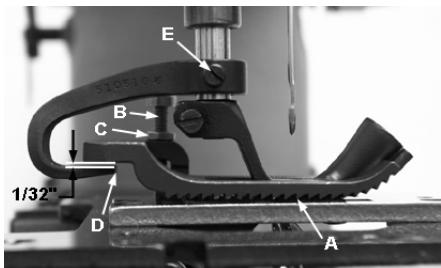

Fig 10A
Set the up upper feed dog so at it lowest position the teeth will just contact the lower feed dog teeth (A, Fig 10A). To make this adjustment, loosen nut (C) and turn screw (B) up or down as required. Lock nut (C) after adjustment has been made.
With the upper feed dog at its lowest position, set the lift lever so the there is approximately $1/32"$ clearance between the top of the lift lever and the bottom of the feed dog heel. (D, Fig 10A) To make this adjustment loosen screw (E) and move the lift lever up or down as required.